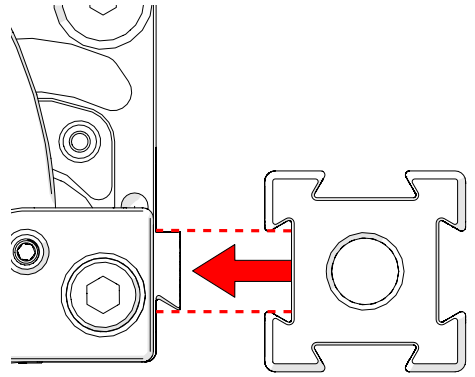

Fig. 81 - Mount frame bar
4. Press the frame bar or accessory to the swivel mount (Fig. 81) and tighten the black wing knobs.